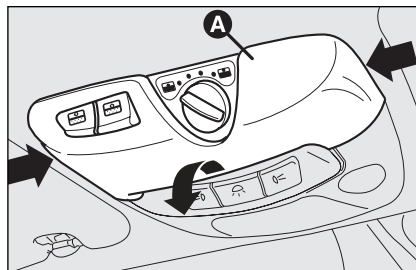

fig. 82
- ☐ remove the front ceiling light **A**-fig. 82 pressing on the sides of the plastic shape as shown by the arrow;